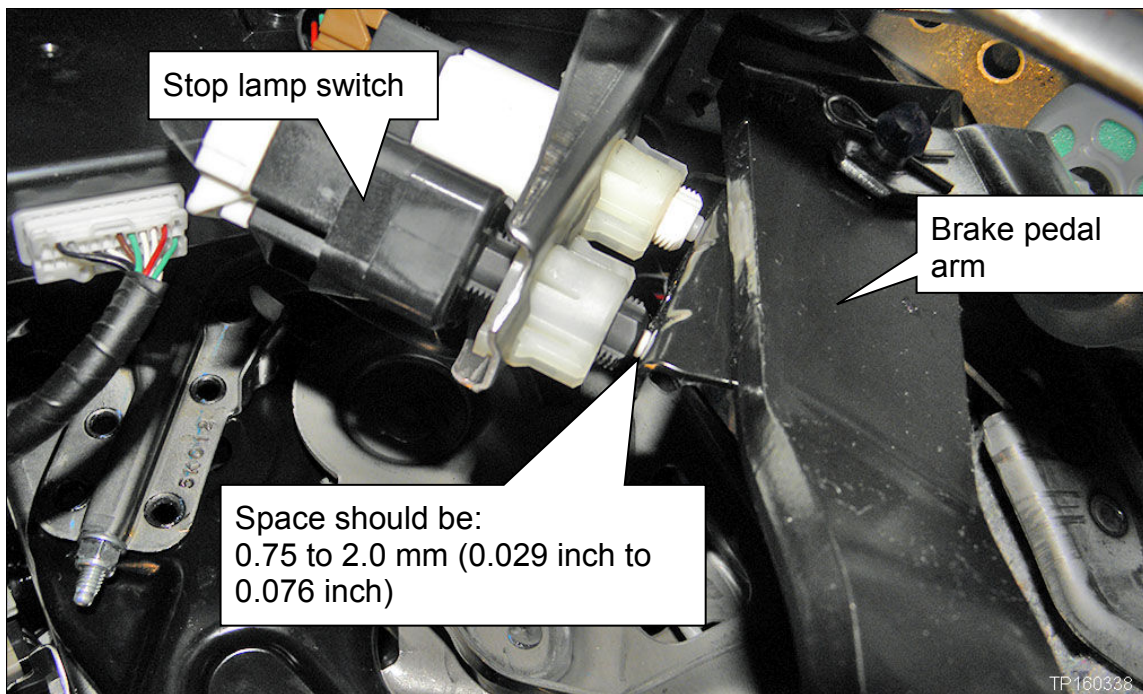

Figure 1
2. Locate the stop lamp switch (see Figure 1).